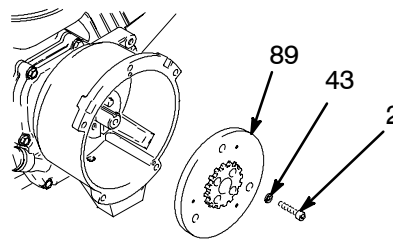

Fig. 13 8704A
8. Fig.13. Use an impact wrench or wedge something between armature (89) and clutch housing to hold engine shaft during removal.
9. Remove four screws (2) and lockwashers (43).
10. Remove armature (89).